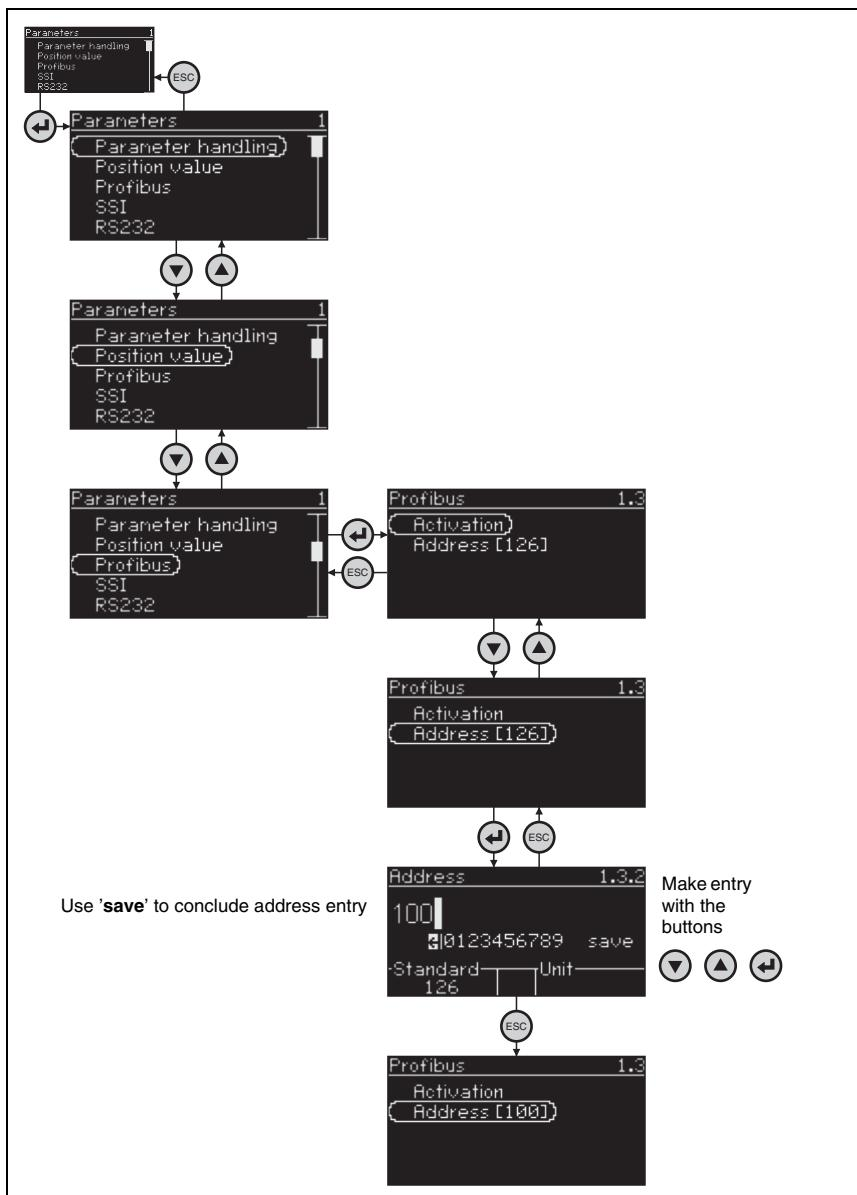

Figure 8.3: Setting the PROFIBUS address
- ↳ *Select the **PROFIBUS** submenu (figure 8.3).*
- ↳ *Select the **Address []** menu item (figure 8.3).*
- ↳ *Enter the PROFIBUS address of the laser measurement system; set to a value between 1 and 126 (default: 126, figure 8.3).*